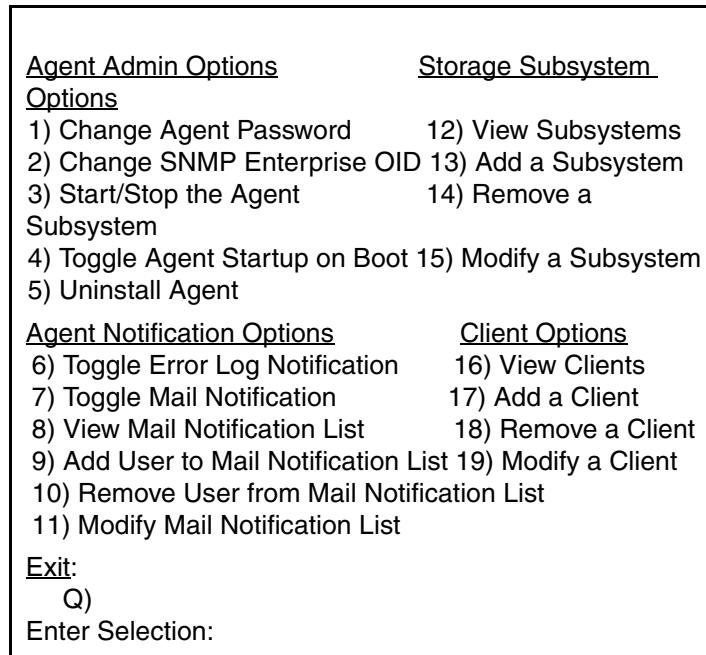

Figure 39: RAID array configuration menu
15. Press **Enter** to continue. The RAID array configuration menu, shown in Figure 39 above, is displayed.